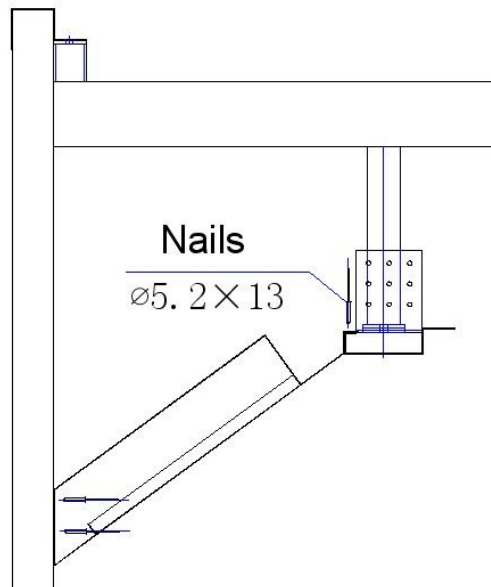

Fig. 2.12
3. Installate the light box with nails and do some sealing with the transparent pastern shown in Fig.2.12